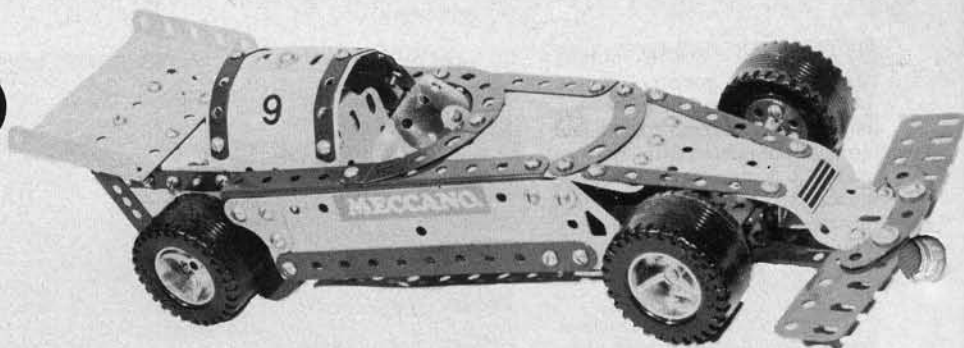
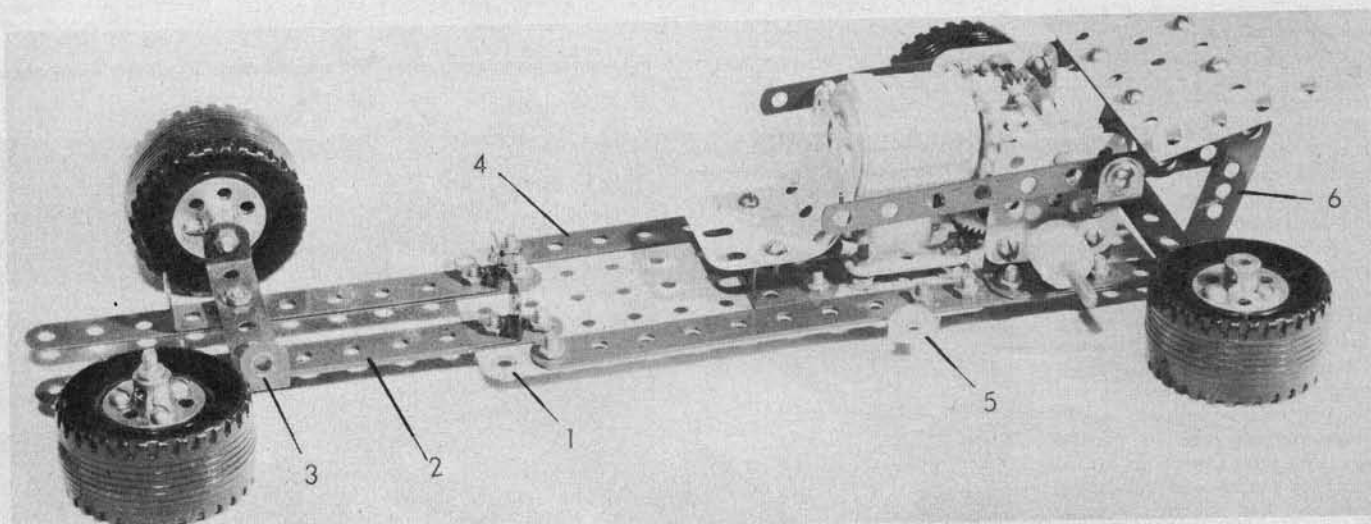
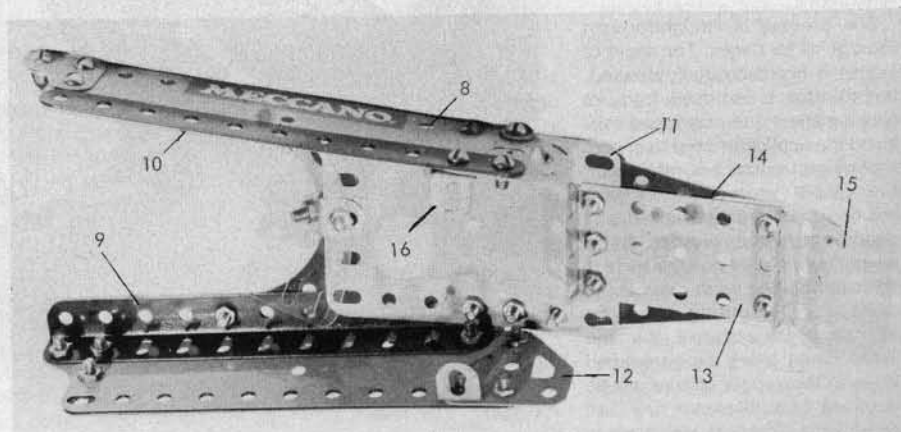

Fig. 1 Formula Racing Car designed by the author from the contents of the new Meccano No. 3 Set. Note decorative labels provided in the outfit.
Fig. 2 Chassis construction showing adjustable motor mounting.
Fig. 3 Details of separate body shell which is detachable as a single unit.
electric motor and this should be mounted as shown in Fig. 2 on four $\frac{1}{2}$ -in. Bolts, the motor being centralised on the rear of the Flat Plate. Double lock-nuts are placed on each bolt shank clear of the plate so that the motor can be set to critical height when engaging the gear drive to the back axle.
Fig. 1 shows the general view of the racing car from which much of the external construction is apparent. Two distinct sections are built as shown in Fig. 2 and Fig. 3 and the chassis is started with a $5\frac{1}{2}$ " \times $2\frac{1}{2}$ " Flat Plate (1) extended forward by a pair of $5\frac{1}{2}$ " Strips (2) overlapped two holes on the Flat Plate as shown and reinforced by $3\frac{1}{2}$ " Double Angle Strips. A $2\frac{1}{2}$ " D.A. Strip forms the front axle (3) to which the front wheels are bolted by $1\frac{1}{8}$ " bolts fitted with two lock-nuts. (See page 205, May *Model Mechanics*, 1979 for a new wheel assembly). Rear extension of the chassis is by a pair of $7\frac{1}{2}$ " Strips (4) giving a five-hole overhang at the back. This simple form of assembly gives an overall 'sprung' chassis. On each side of the Flat Plate, one hole in towards the rear, a $1"$ \times $\frac{1}{2}"$ Angle bracket (5) is bolted on at a slight angle to receive the body shell in due course. Included with the new No. 3 Meccano set is the 3-4.5 volt Meccano
position of the gears. A rear aerofoil is made from a $3\frac{1}{2}$ in. \times $2\frac{1}{2}$ in. Flanged Plate (7) fixed to a pair of $2\frac{1}{2}$ in. D.A. Strips and bolted to the vertical sloping 2 in. Strips (6) at the rear of the chassis and to a pair of $4\frac{1}{2}$ in. Narrow Strips as seen in Figs. 2 & 4. The 'offside' Narrow Strip
When the motorised chassis is completed it should be tested on a motor run to ensure that all gears are in clean mesh. The $1\frac{1}{2}$ in. Gear Wheel (21), fixed on the back axle must be set clear of the chassis side members to avoid contact. If the mechanics are satisfactory, the cockpit hood may be fitted, this being made from a pair of $2\frac{1}{2}$ in. Square Plastic Plates formed by $3\frac{1}{2}$ in. Narrow Strips overlaid in a "U" curve as shown and bolted directly to the horizontal $4\frac{1}{2}$ in. Narrow Strips. Fig. 3 shows the separate body shell, the sides of which are $5\frac{1}{2}$ in. \times $1\frac{1}{2}$ in. Flexible Plates bolted on to $5\frac{1}{2}$ in. Girders (9) and overlaid with $5\frac{1}{2}$ in. Strips (10). Flat Trunnions (12) are fixed at each side and at the same time, $\frac{1}{2}$ in. Angle brackets (16) are fitted to permit the body shell to be attached to the chassis, the slotted lugs of these brackets being bolted under the leading corners of the chassis base plate on final assembly. Fitted just forward of the cockpit is the $3\frac{1}{2}$ in. \times $2\frac{1}{2}$ in. Flexible Plate (11), gently curved downwards at the front and extended by Flanged Plate (13), a pair of 3 in. Narrow Strips (14) and a $2\frac{1}{2}$ in. \times $1\frac{1}{2}$ in. Plastic Plate (15) curved in an "S" bend to fit the front aerofoil as shown in Fig. 1. A $2\frac{1}{2}$ in. \times $1\frac{1}{2}$ in. Clear Plastic Plate forms the windshield and final and attractive decoration is carried out via the self-adhesive and re-usable label sheet included in the No. 3 Meccano set. The driver's seat is also a plastic plate fixed to a Channel Bearing bent plate bolted to the chassis base. Although a battery box is also supplied with the outfit, average "shelf life" batteries from a shop can give as little as 2 volts (per series pair) instead of the 3 volts really required. The model should still run on a flat table top or smooth sheet of hardboard, but for running greater distances along a corridor, or the floor of an exhibition hall, it should be fitted with a lightweight trailing cable of twin flex and provided with 4 or 5 volts D.C. from suitable batteries.
48 Engine frames assembly for a "Rob Roy" (depicted in Fig 2.)